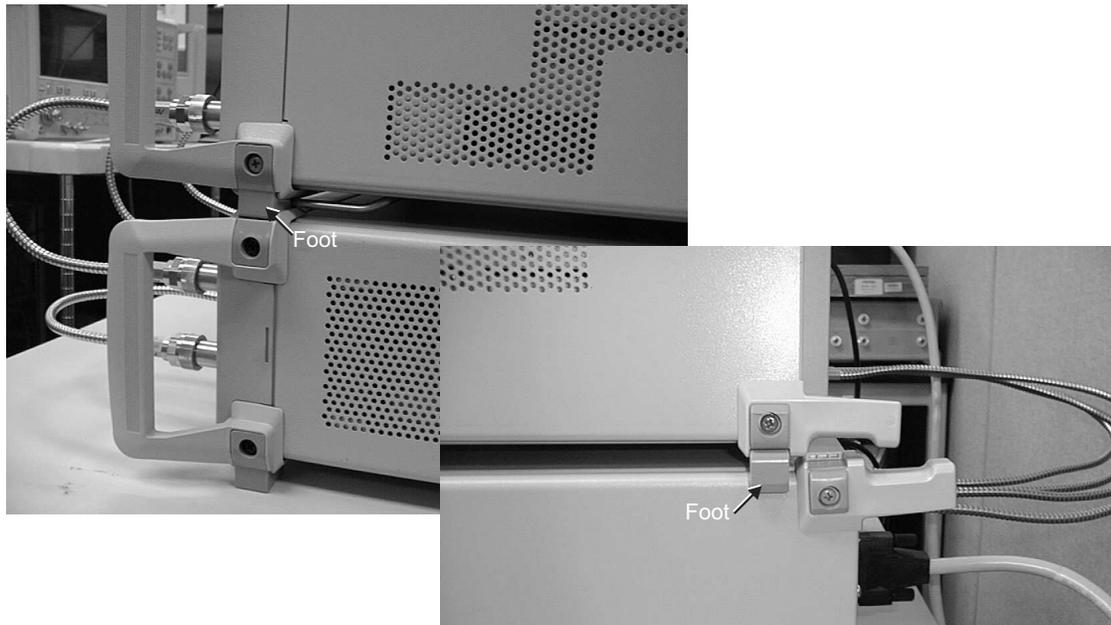

Figure 2-1. ME7840A Component Assembly
Step 1. Place the MS462XC on top of the MS4782X Test Set. Figure 2-1 shows how the green colored feet on the case of each unit stack on each other.